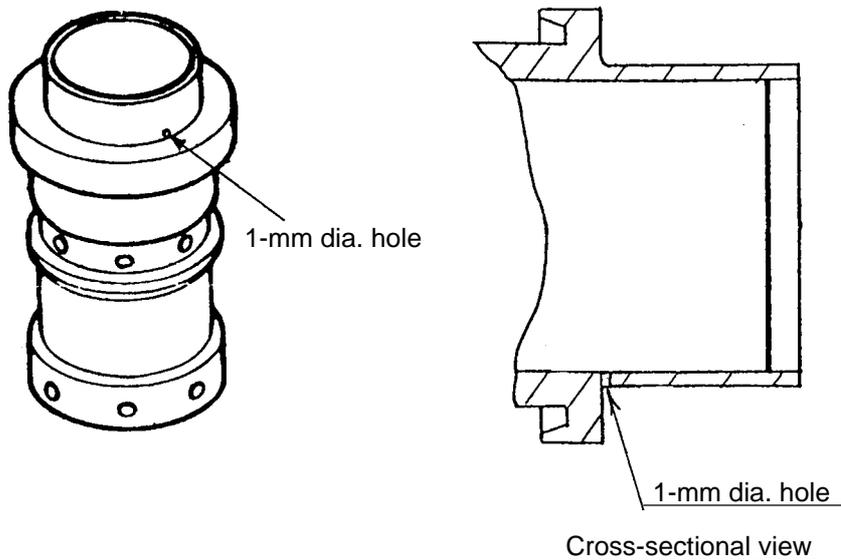

Fig. 15
- Be sure to check that the Cylinder [13] is provided with a 1-mm dia. hole (Fig. 15) before reassembly. Note that mounting a wrong cylinder may cause a malfunction. There is no problem in facing the 1-mm dia. hole in any direction when mounting.
- Remove the two Hex. Socket Hd. Bolts M5 x 20 [1], and as illustrated in Fig. 15, disassemble the Head Cap [7], the Exhaust Valve [6] and Gasket (C) [5] in that order.